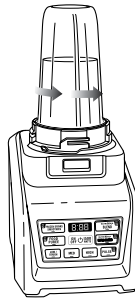

Fig. 5
- 9** Once you have reached your desired consistency, stop the appliance by pressing the power button and wait for the Pro Extractor Blades Assembly to stop turning. Turn the Nutri Ninja® Cup anticlockwise and pull straight up to remove. **(Fig. 5, Fig. 6)**